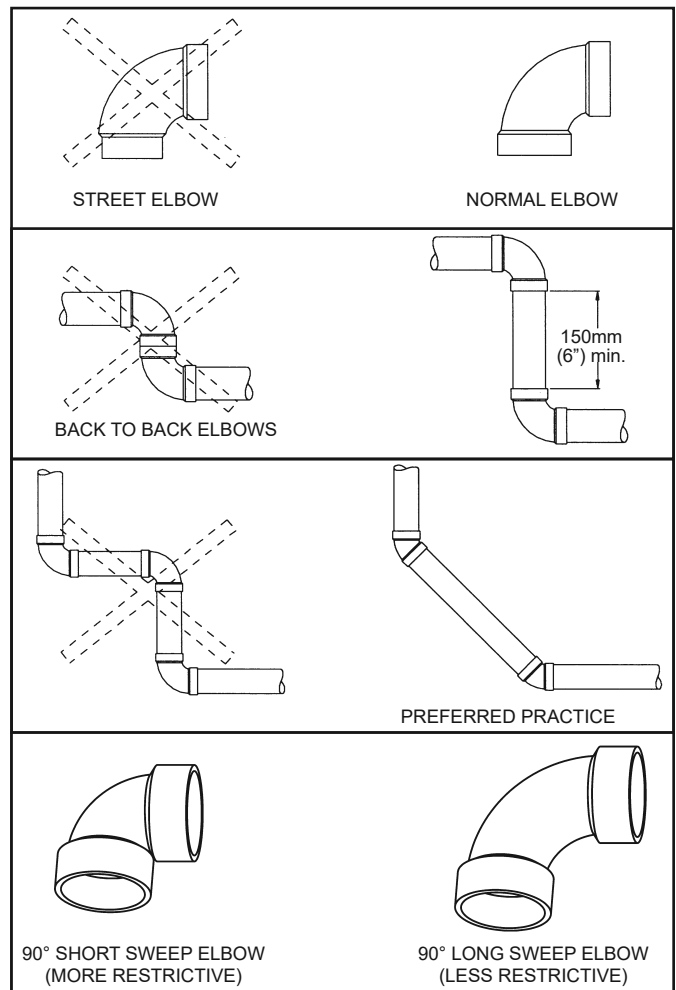

Figure 30.
Note: The information provided in Figure 30 is intended as a guideline for good vent installation practices only and is not intended to restrict venting options beyond those restrictions established by the current edition of the **"Natural Gas and Propane Installation Code" B149.1** or any applicable local and provincial codes.
3. Avoid using 90° elbows “back to back” and do not use street elbows. Maintain a minimum 6” straight section between elbows. Closely coupled and short radius elbows reduce the venting capacity. Figure 30 shows examples of vent pipe connections.